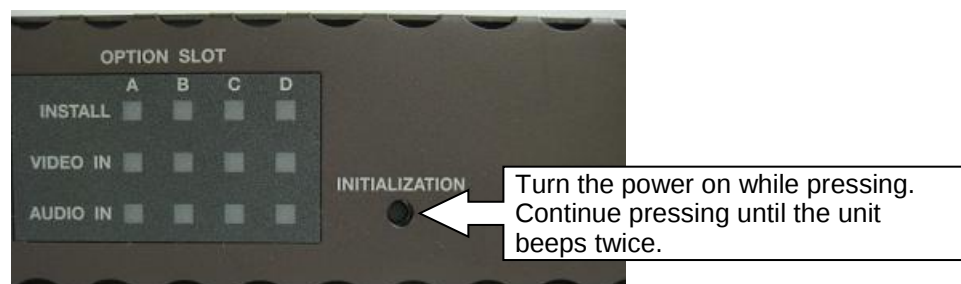

Fig. 2 FA-1010 INITIALIZATION button location
1. Turn the power on while pressing down the INITIALIZATION button (Fig. 2).